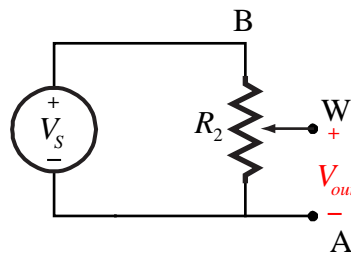

Figure 5: Using a potentiometer as a voltage divider
A potentiometer can be used as a variable resistor or as a variable voltage divider. When used as a variable resistor, only two terminals are used: W and either A or B. In this configuration, it is common practice to connect the unused terminal to the wiper to eliminate possible noise pickup. When used as a voltage divider, all three terminals are used, as shown in Figure 5.
- d. Connect the $10k\Omega$ potentiometer in your kit to the power supply to form a variable voltage divider, as shown in Figure 5. Make sure that terminals A and B are across the voltage source, not A and W or B and W!